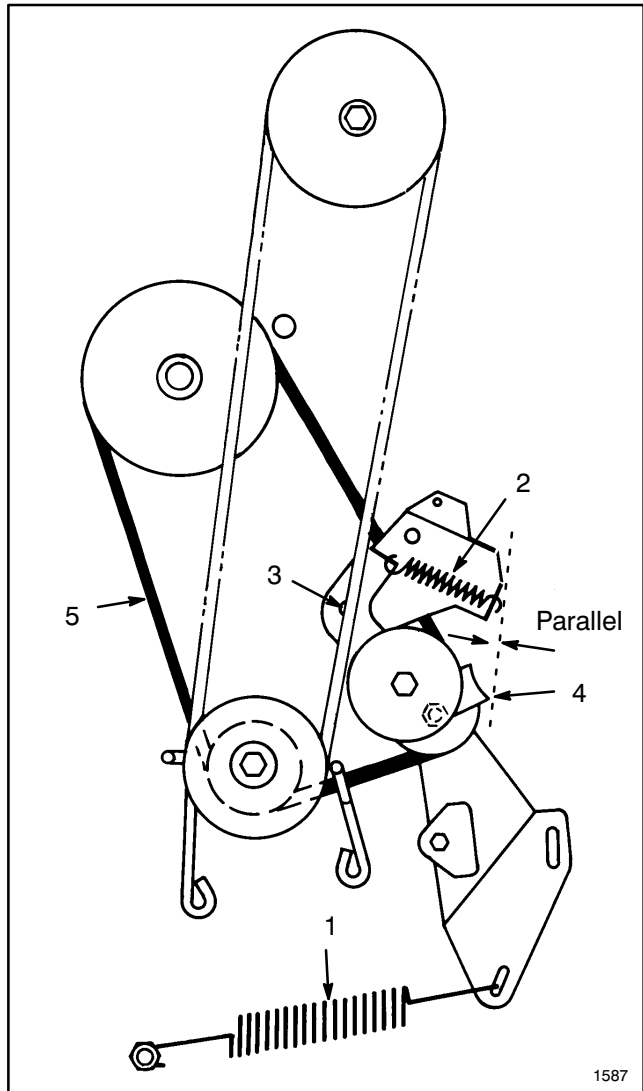

Figure 21
7. Unhook large traction spring from mounting screw (Fig. 21). Use caution when removing spring as it is heavily tensioned.
8. Unhook idler spring from idler bracket (Fig. 21).
9. Remove locknut and washer securing idler bracket to frame and remove bracket (Fig. 21).
10. Loosen the locknut on pulley until belt guide can be removed (Fig. 21). Remove belt from all pulleys.
Note: When reinstalling belt guide to idler pulley, make sure edge of belt guide is parallel to frame as shown in Figure 21.